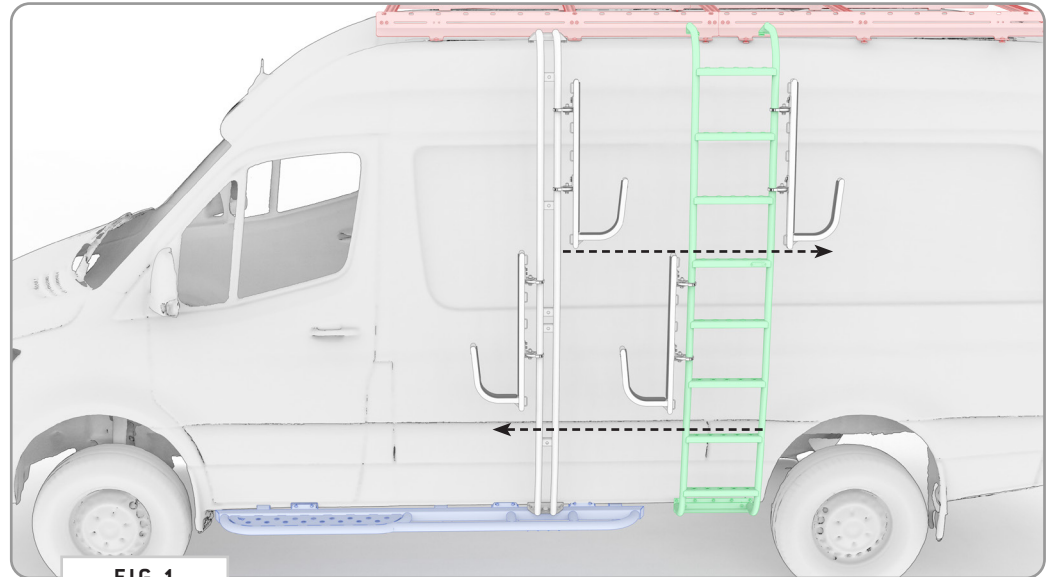

FIG 1
**1.1 Determine Hook Folding Direction:** Before starting assembly, determine your preferred folding direction of the hooks (**FIG 1**).